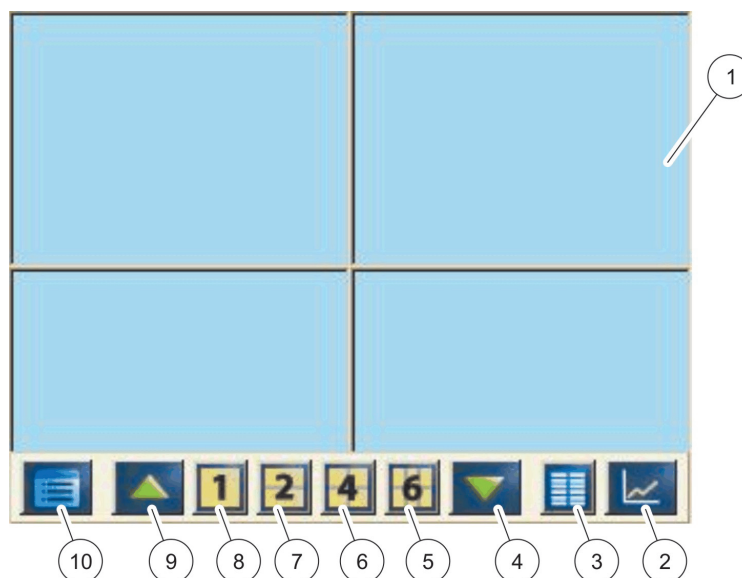

Figure 39 Measured value display with pop-up toolbar
- **Pop-up toolbar:** The pop-up toolbar provides access to the SC1000 Controller and probe settings and is normally hidden from view. To view the toolbar, touch the bottom-left of the screen. The toolbar contains the buttons described in Figure 39.
2. On the pop-up toolbar press **1**, **2** or **4**. To view more than 4 values simultaneously, press **LIST** (Figure 39).
- To open the graph, display press the **GRAPH** button on the pop-up toolbar (Figure 39). The pop up toolbar appears and the display can be changed to show the measurement values (1, 2, 4, LIST)